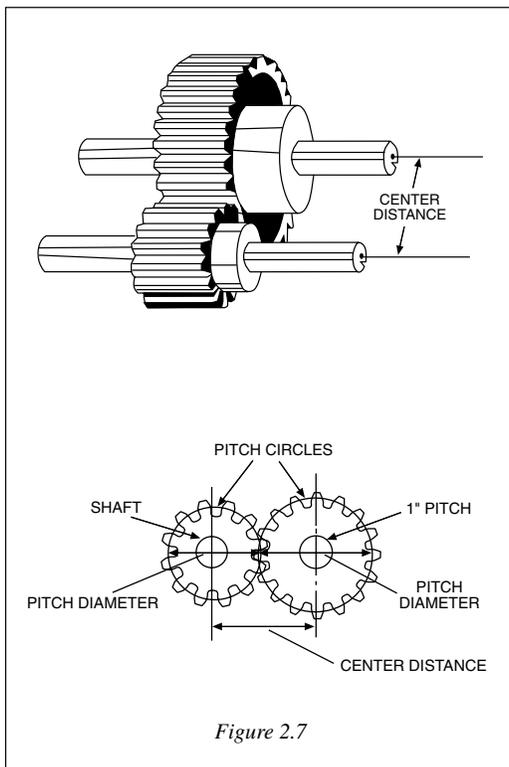

Figure 2.7
**CENTER DISTANCE** is the distance between the center of the shaft of one spur gear to the center of the shaft of the other spur gear. In a spur gear drive having two gears, center distance is equal to one-half the pitch diameter of the pinion (which, you will remember from Chapter 1 is the smaller of two spur gears) plus one-half the pitch diameter of the gear. Or, better still, simply add the sum of the two pitch diameters and divide by two. (See Figure 2.7)